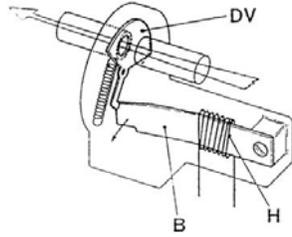

Fig.1A Extra air valve (cold)
- Its design is simple and contains a disc valve (D) as seen in Fig.1A. When cold, an aperture in the disc and an aperture in the body of the valve are in alignment, allowing air to pass through. As temperature rises, the disc turns about its central spindle progressively eclipsing the aperture through which the air can pass.